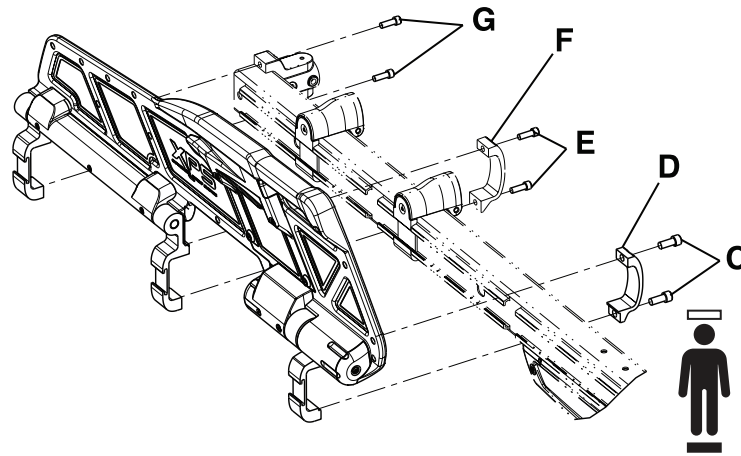

Figure 11: Remove the siderail assembly
- Using a 1/4" hex wrench, remove the socket head cap screws (C) that secure the siderail clamp (D) to the ratchet assembly at the foot end of the main assembly (Figure 11 on page 43). When reinstalling, use a torque wrench to torque both new screws to 22 ± 3.3 ft-lb.
- Using a 3/16" hex wrench, remove the two socket head cap screws (E) that secure the middle siderail clamp (F) to the outer rail assembly (Figure 11 on page 43).
- Using a 3/16" hex wrench, remove the two socket head cap screws (G) that secure the top and bottom of the base/litter interface bracket to the outer rail assembly (Figure 11 on page 43).